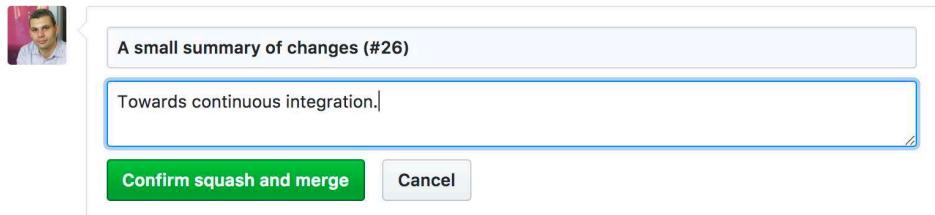

Figure 13.8. The final step
(7) At this point, you can click “squash and merge” to merge the changes into master (Figure 13.8).